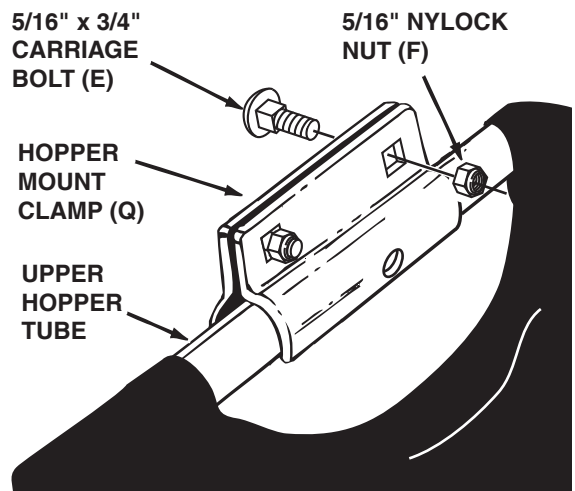

FIGURE 14
- Assemble two hopper mount clamps (Q) over the hole in the middle of each upper hopper tube using two carriage bolts (E) and two nylock nuts (F). Tighten only finger tight. See figure 14.